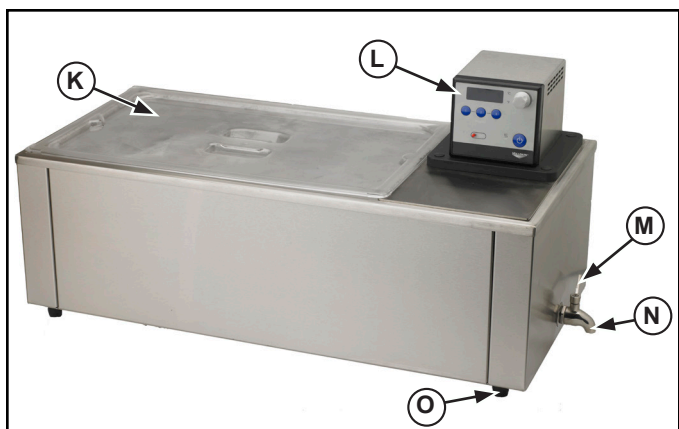

Figure 3. Cover, Drain, and Drain Lever (shown in the "Open" Position).
3. Place a suitable container directly under the drain valve (N). See Figures 3 and 4. Turn the drain valve lever (M) to the open position monitoring the flow of liquid going into the container. Use caution to avoid spills that may create a slippery condition. Turn drain valve lever (M) to the closed position before the container is full. Dispose of the drained water. This procedure may need to be repeated.